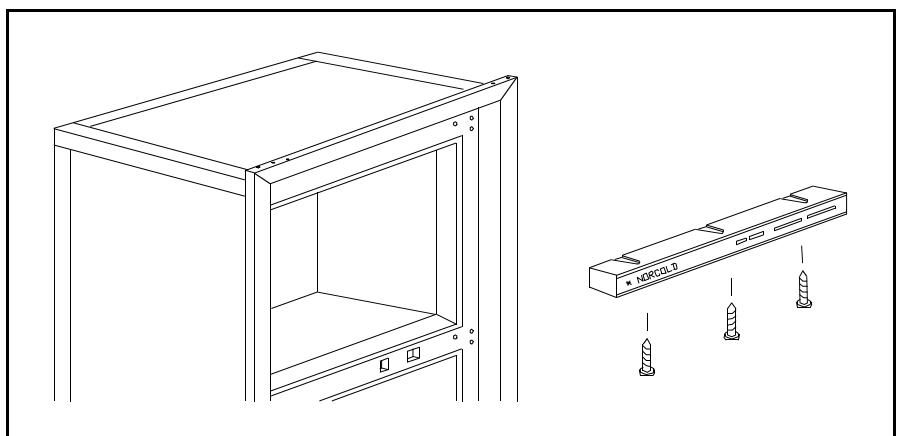

Figure 5.27 Eyebrow Removal
12. Remove the screws shown in Figure 5.27, and pull the Eyebrow assembly away from the refrigerator as shown.